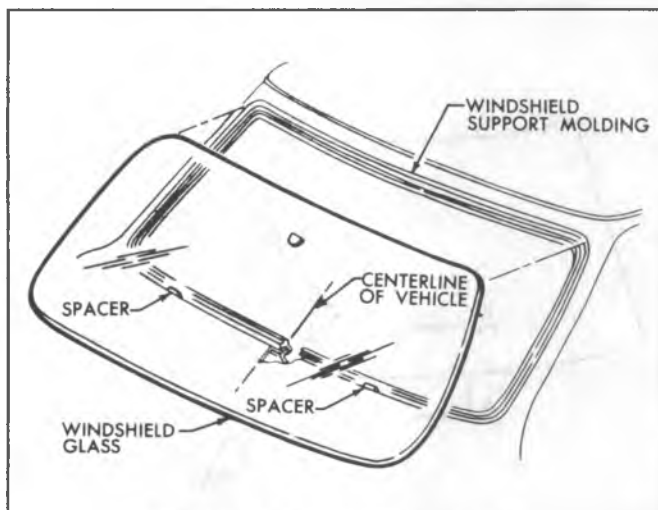

Fig. 2D-104 Windshield Installation
5. With the aid of a helper, lift the glass into the opening. Carry the glass with one hand on the inside of glass, and one hand on the outside. At the windshield opening, set the glass in a horizontal position. While one partner holds the glass in this position, the other can reach one arm around the pillar and support the glass from the inside, while the first person assumes the same position. With the glass centered in the opening, place the glass against the inside support molding, use small rubber blocks to support the glass in the correct position. Use the last screw on either side of the cowl grille cover as a guide for the positioning of these blocks in the windshield opening. Be sure to center the glass so that gaps on opposite sides and top-to-bottom are equalized. Trim rubber blocks as necessary. If the short method is used, check reveal molding fit and cut away additional solidified urethane base as necessary. See Fig. 2D-104.